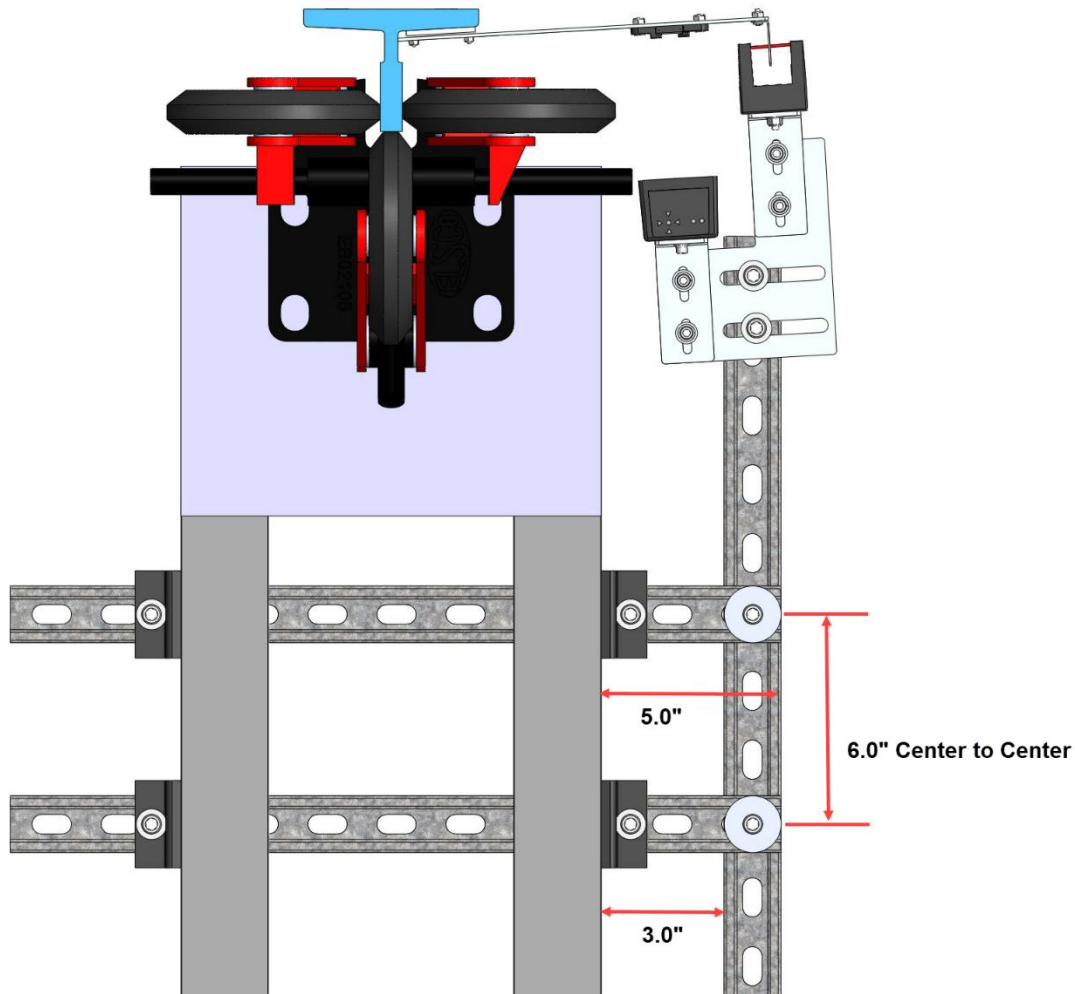

Figure 89: Unistrut Installation
NOTE: exact positioning and lengths of the Unistrut can be adjusted as needed if the Sensor Array is positioned as shown in Figure 89.
3. Bolt the 24" length of Unistrut to the two 18" lengths of Unistrut (See Figure 89).